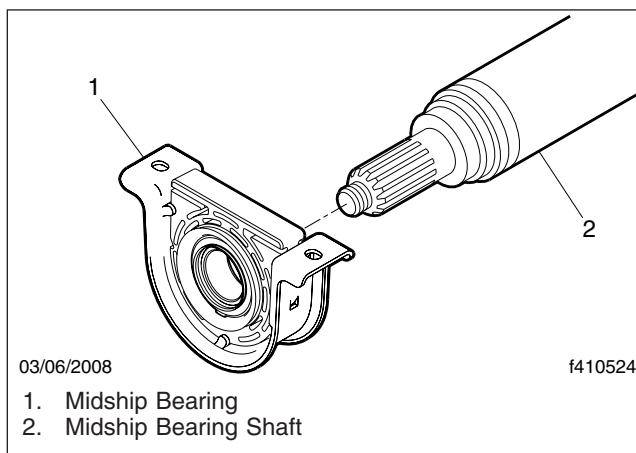

Fig. 15, Midship Bearing
end-yoke. Then, remove the midship bearing as follows. See Fig. 15.
- 3.4 Use a hammer and a brass drift to remove the midship bearing. See Fig. 15.